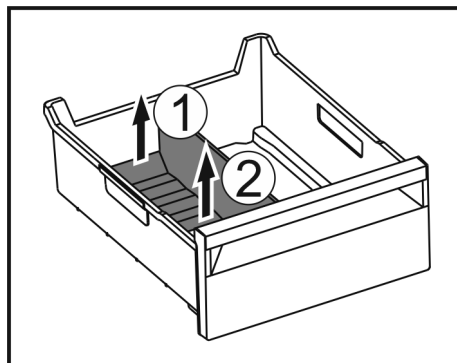

Fig. 139
- ▶ 提升冰格分隔器后部。Fig. 139 (1)
- ▶ 向上取出冰格分隔器。Fig. 139 (2)